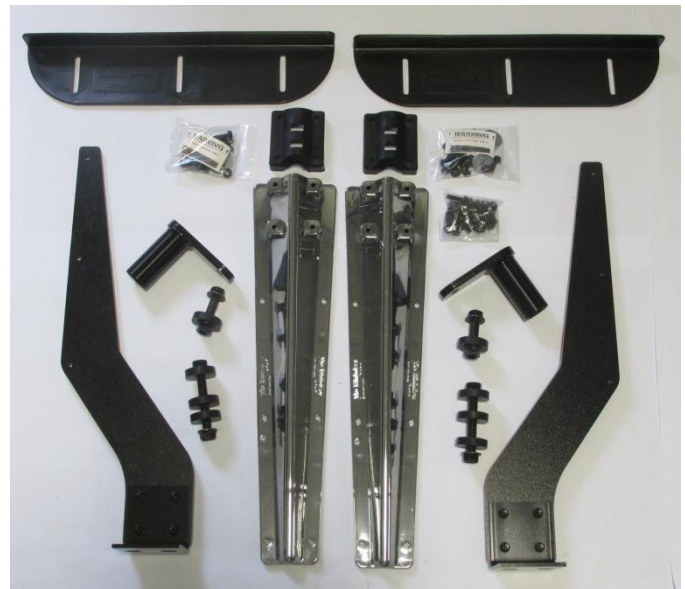

Figure 1
- B. Compare the parts with hardware kit 100129 as shown in Figure 1.